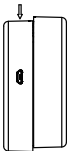

Figure 2
- With reference to figure 2, push down the upper cover.